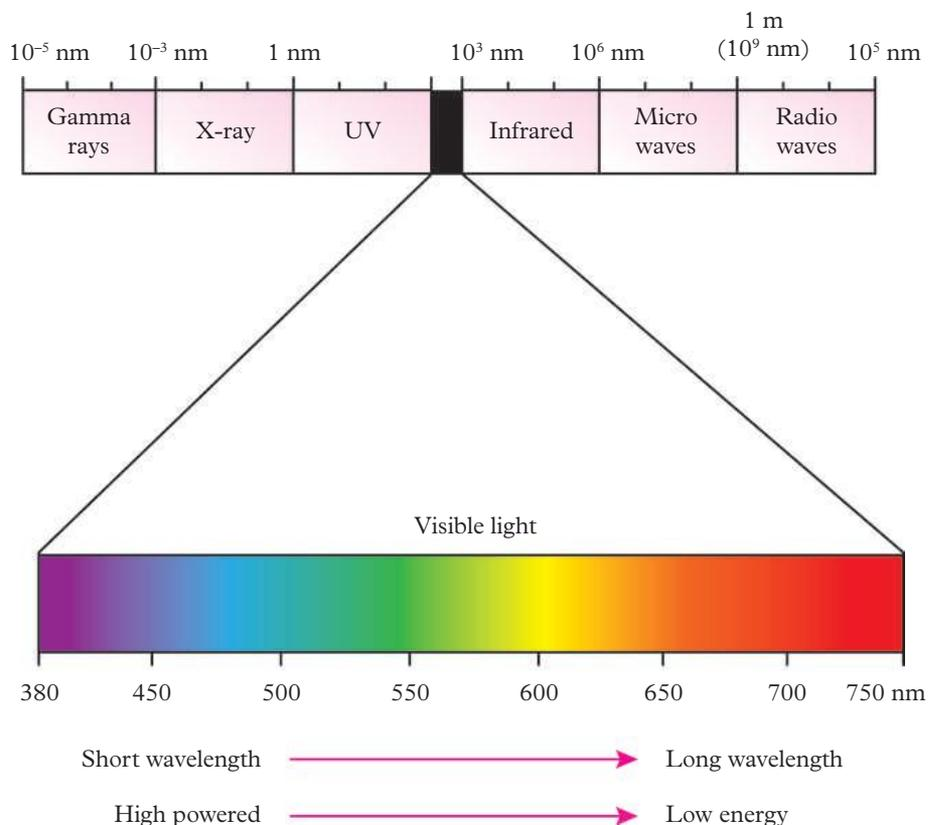

FIGURE 7 The electromagnetic spectrum
UV-visible spectroscopy is an instrumental technique that uses light from the ultraviolet (UV) and visible light regions of the electromagnetic spectrum, as shown in Figure 7.